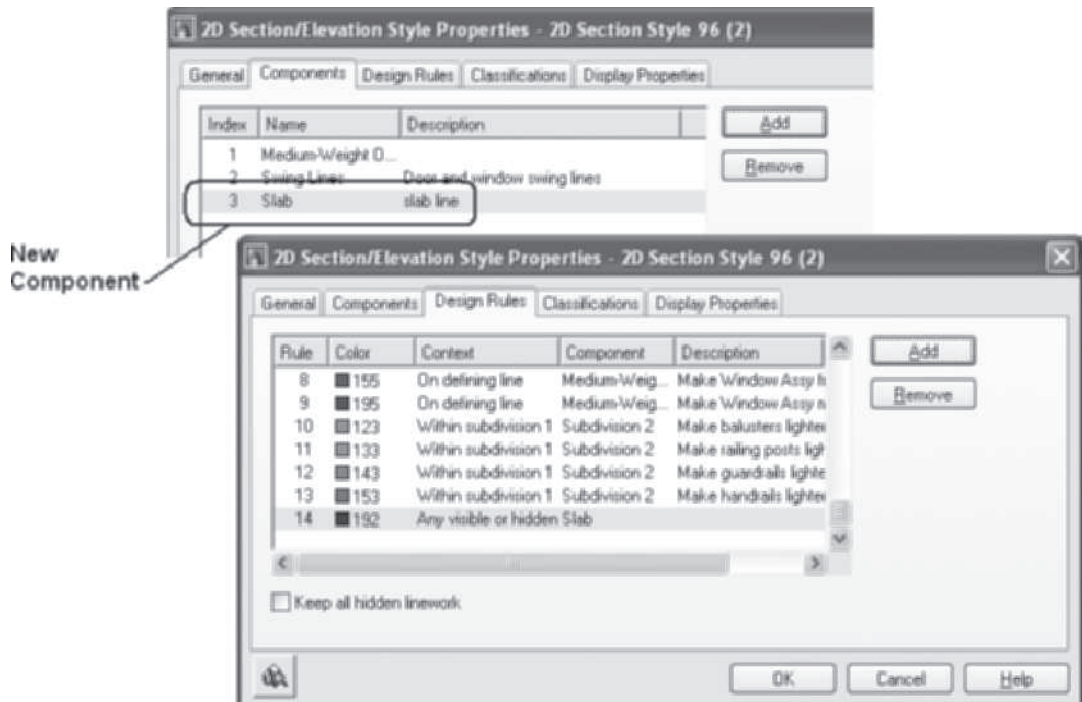

FIGURE 12.71 Creating a new display component
13. Select the **Components** tab and click the **Add** button as shown in Figure 12.71. For Index 3, edit the Name to **Slab** and the Description to **slab line**.
14. Select the **Design Rules** tab. Click the **Add** button to add Rule 14. Select the **Color** column to open the **Select Color** dialog box, type **192** in the color field, and click **OK** to dismiss the Select Color dialog box. Select the **Context** column to display the drop-down list and select **Any visible or hidden**. Select the **Component** column to display the drop-down list and select the **Slab** component as shown in Figure 12.71. Do not close the dialog box.